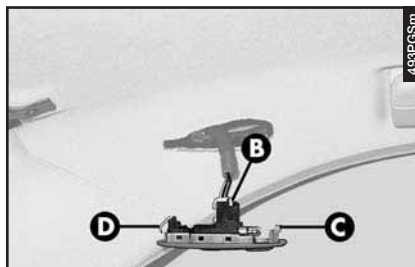

fig. 72
- Remove and replace the bulb (**B-fig. 72**) (tubular with bayonet coupling) pushing gently and turning counter-clockwise.
- Refit the roof light firstly hooking the catch (**C-fig. 72**) and pressing on the other side until the catch clicks into place (**D-fig. 72**).